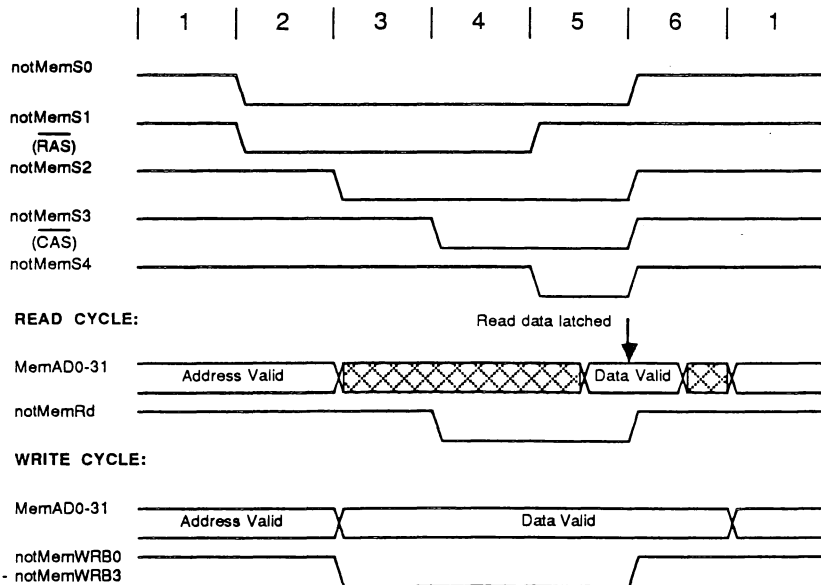

Fig.7 - Memory configuration IV (4 cycles)
- 1) The default memory configuration runs in 4 processor cycles and is labelled 'IV' on the board. It is shown in fig.7.